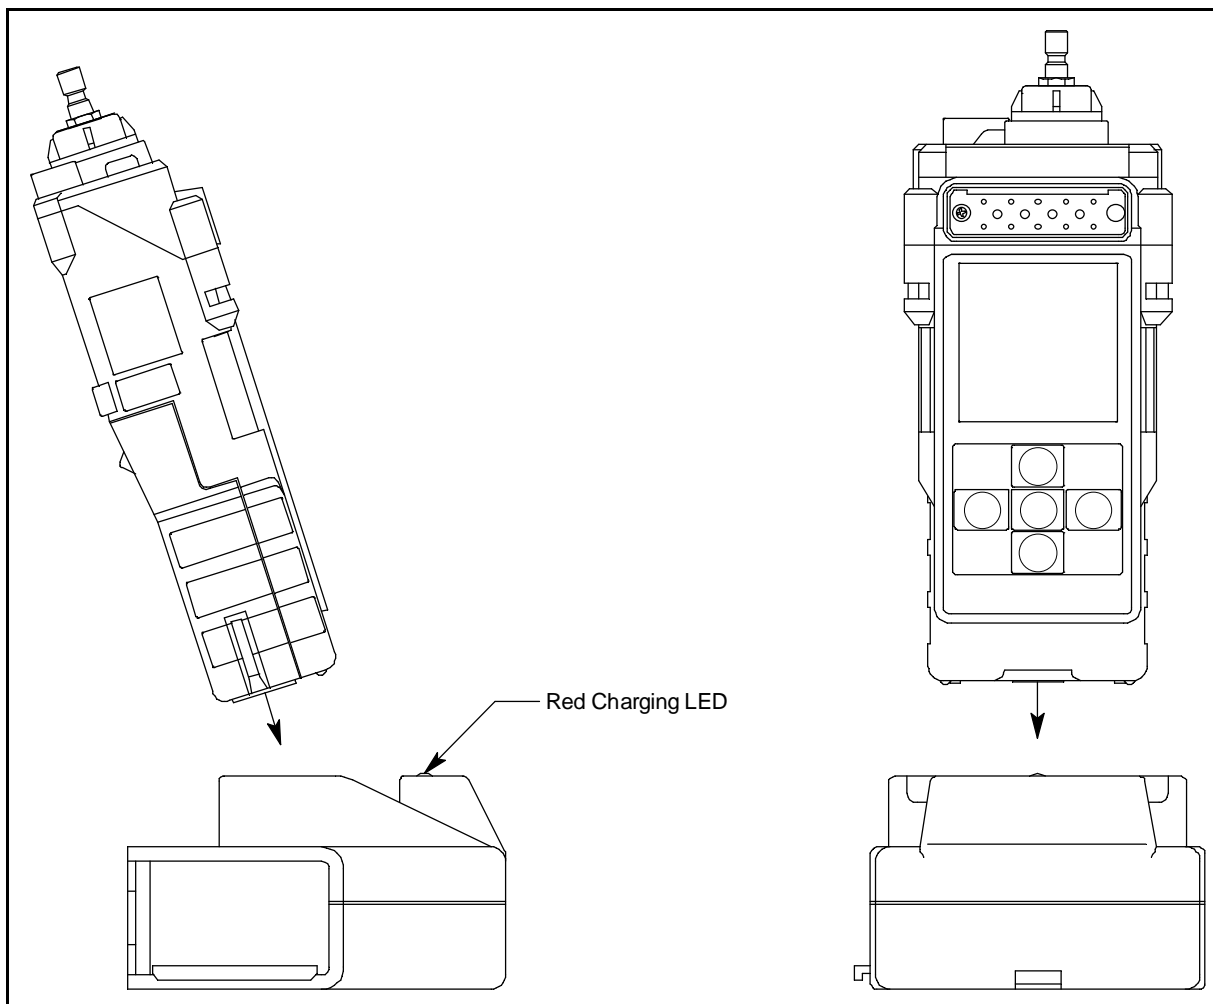

Figure 23: Putting the GX-2012 into the Charging Station
4. Place the GX-2012 into the battery charging station as shown in Figure 23 below so that the metal contacts on the back of the unit come into contact with the metal contacts on the back of the holder in the charging station. When proper contact has been made, the red LED on the charging station will turn on.